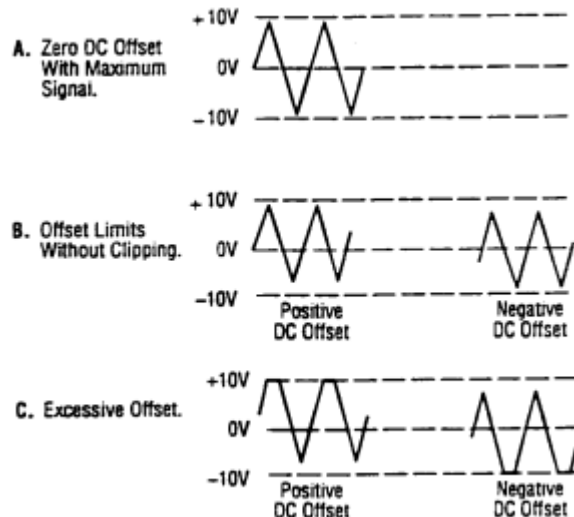

Figure 3. Use of DC OFFSET Control
- Adjust the amplitude of the output as desired using the **OUTPUT LEVEL** control (10). Rotation of this control varies the amplitude from maximum to 20dB below maximum. An additional attenuation of -20dB is available by pushing in the **-20dB** switch (5). The attenuation factors can be combined for a total of -40dB. The maximum signal level is 10V p-p (into 50Ω).
- A DC component can be added to the output signal by pushing in the **DC OFFSET** switch (4) to enable operation of the **DC OFFSET** control (11). Rotation of this control adds a positive or negative DC component to the output signal. The DC component introduced is independent of the **OUTPUT LEVEL** control and can be varied by ± 10 volts open circuited or ± 5 volts into 50Ω. The DC Offset does not affect the **TTL/CMOS** output jack. The effect of DC OFFSET is shown in Fig. 3.
6. Remember that the output signal swing of the generator is limited to ± 10 volts open circuited or ± 5 volts into 50Ω, and applies to the combined peak-to-peak signal and DC offset. Clipping occurs slightly above these levels. Fig. 3 illustrates the various operating conditions encountered when using the DC offset. If the desired output signal is large or if a large DC offset is required, an oscilloscope should be used to make sure that the desired signal is obtained without undesirable clipping.